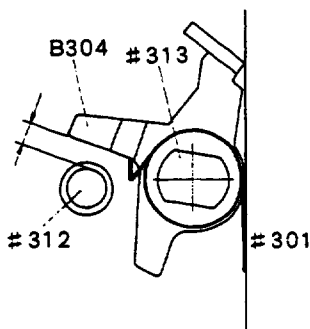

fig. 18 = 313 Spring shoe
- Fig.18 shows how to hook #313 in place.